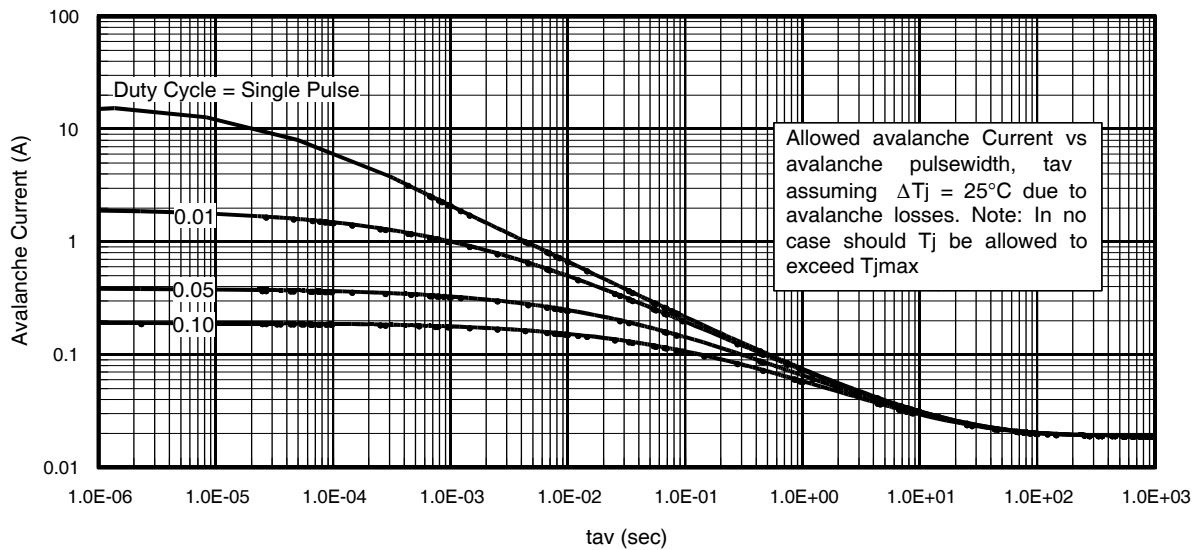

Fig 19. Typical Avalanche Current Vs.Pulsewidth
Notes on Repetitive Avalanche Curves, Figures 19, 20:
7. ΔT = Allowable rise in junction temperature, not to exceed T_{jmax} (assumed as 25°C in Figure 19, 20).